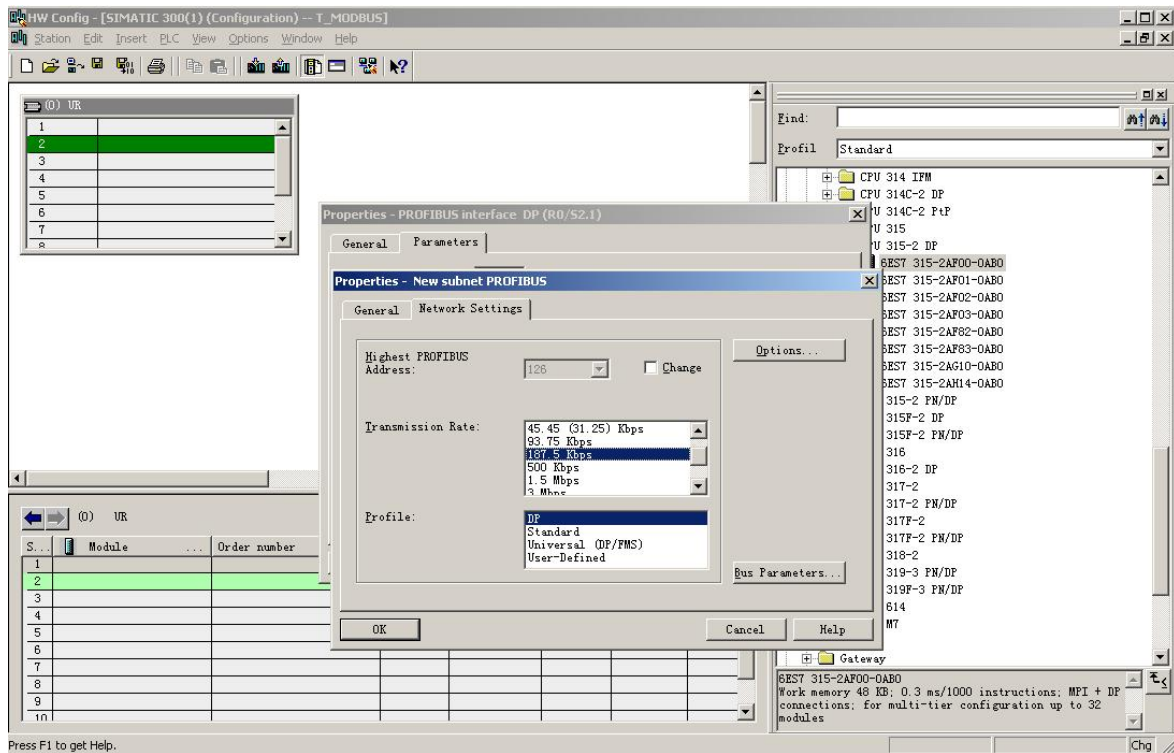

Figure 8
9. Create PROFIBUS DP network and set up PROFIBUS DP: Click New and then Network settings, select DP. select a baud rate such as 187.5Kbps, then "OK". Double-click it. Figure 8: